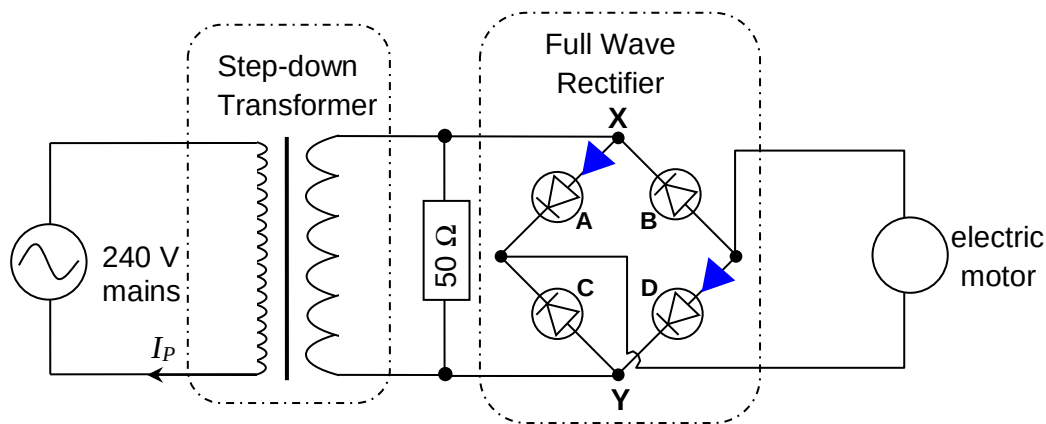

Fig. 7.1
- 7 A 240 V a.c. mains is connected to a step-down transformer, a full wave rectifier and a motor as shown in Fig. 7.1. The electric motor requires an operating peak power of 6.6 W.
On Fig. 7.1, draw an arrow to indicate the direction of current, if any, across the four diodes A, B, C and D during this half of a period. [1]